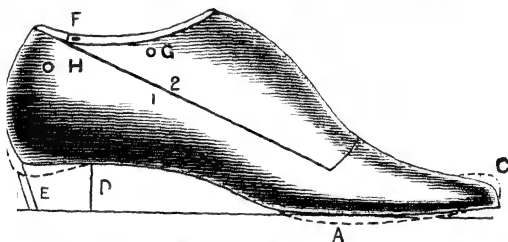

Fig. 68.—A Last.
The dotted lines in Fig. 68 indicate the parts of these lasts that are usually faulty; but with a little skill and
Fig. 68 shows the proper shape of a last—it is not rounded too much at the bottom (A), nor does it project too much at B or C. A round bottom will make the toe turn up, and, while the boot is being worn, will cause undue strain on certain parts of the front or vamp part. Too much stuff at B will tend to throw the heel of the boot too far back, and also make it higher at the waist (D) than at the back, as shown by the two lines B and D. If the last has the dotted part at the heel rasped off, the